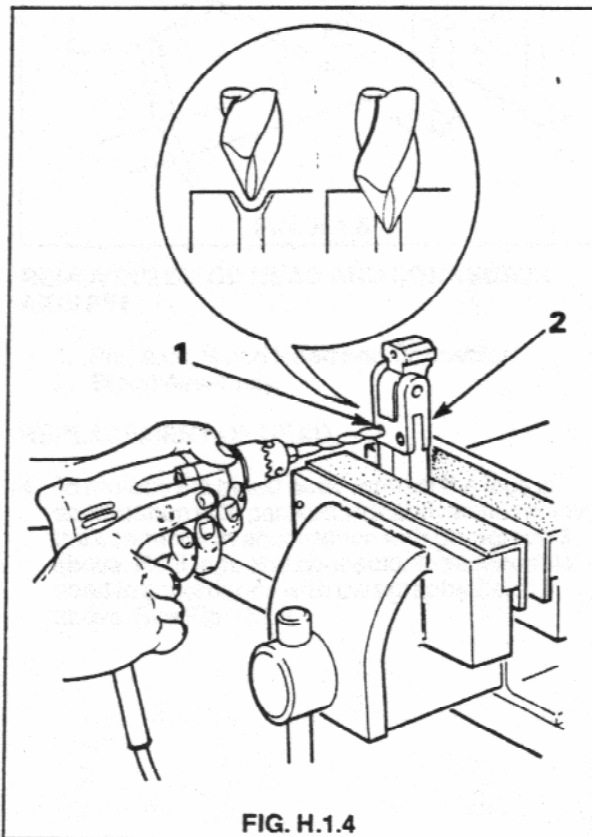

FIG. H.1.4
2. Support the bipod assembly and drill off the heads of the leg axis pins using a 4.93 mm diameter twist drill. Drive out the remains of the pins, using a suitable punch and hammer. Fit new axis pins on assembly and form heads at both ends of axis pins. See Fig. H.1.4 and H.1.6.